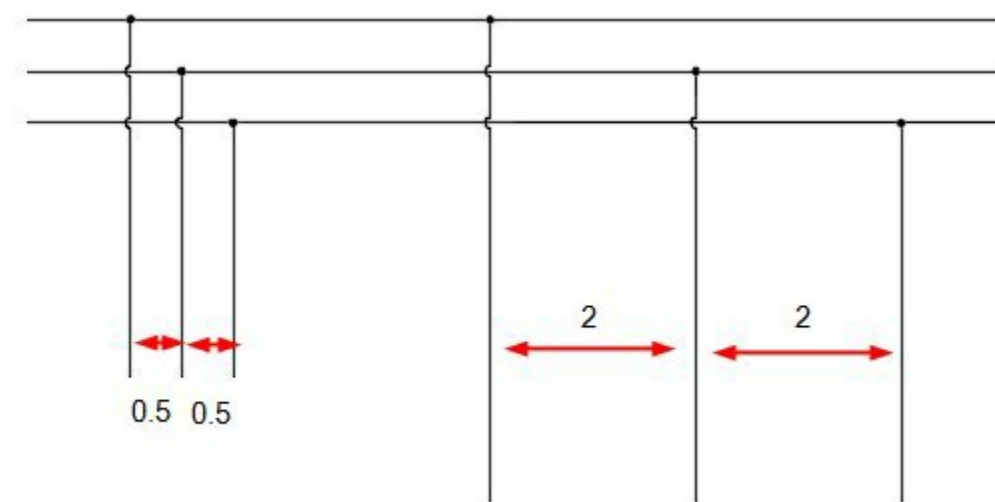

Figure-55. Other two wire buses
- Similarly, create two more buses each having 3 wires with proper spacing; refer to Figure-55.